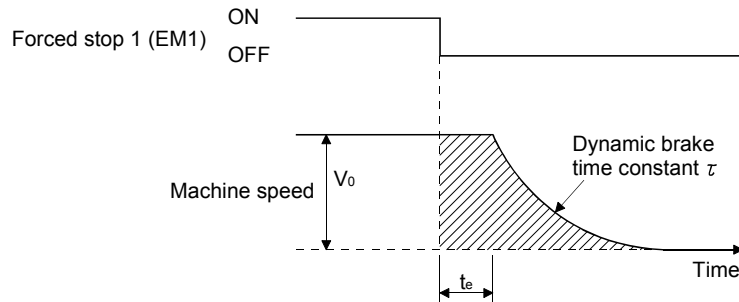

Fig. 13.2 Dynamic Brake Operation Diagram
Fig. 13.2 shows the pattern in which the servo motor comes to a stop when the dynamic brake is operated. Use Equation 13.1 to calculate an approximate coasting distance to a stop. The dynamic brake time constant τ varies with the servo motor and machine operation speeds. (Refer to (1) (b) in this section. Please contact your local sales office for the servo motor not indicated.)